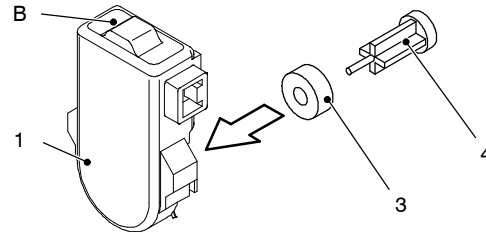

Fig. 60
- 3 Hold the flow switch sensor 1 and bring the ring in touch with the sensor as illustrated in Fig. 60.